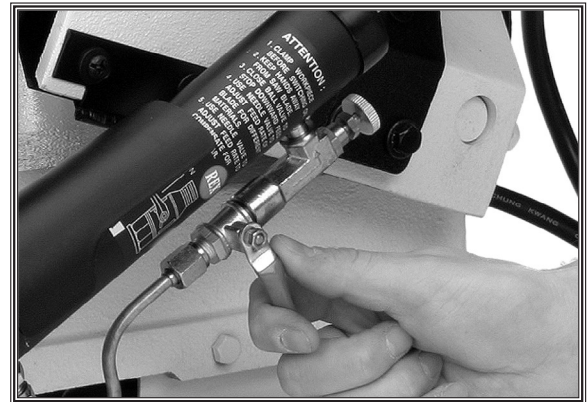

Figure 46. Stopping the feed cylinder.
2. Raise the headstock to the vertical position and close the feed valve to lock the headstock in place (see **Figure 46**).